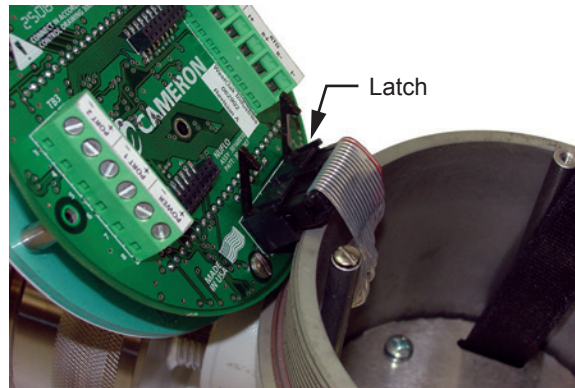

Figure 5.3—Latch securing the ribbon cable
- a. Lift the latch from the black clip securing the ribbon cable (Figure 5.3, page 74).
4. Remove the two #4-40 × 5/16" screws fastening the circuit assembly to the keypad (Figure 5.3, page 74).